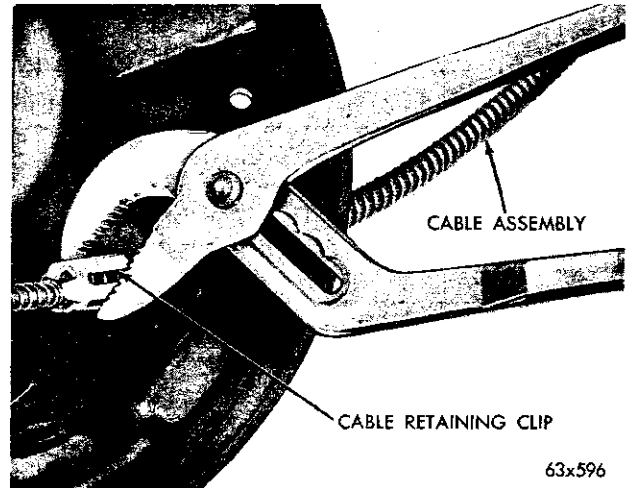

Fig. 9—Removing Rear Cable from Support Plate
(1) With the wheel and brake drum removed, remove the four backing plate attaching nuts and washers.
(2) Remove the rear axle shaft and retainer.
(3) Disconnect the hydraulic brake line from the wheel cylinder.
(4) Disengage the brake cable from the parking brake lever.
(5) Using a suitable tool compress the three flared legs of the cable retainer and pull the brake cable out of the support plate (Fig. 9).
(6) Remove the brake support plate from the rear axle housing.
(4) Remove the brake shoe retaining springs.
(5) Remove the brake shoes strut and spring from the brake back plate and disconnect the brake cable from the operating arm.
(6) Compress the retainers on the end of the brake cable housing and remove the cable from the brake plate (Fig. 9).
(7) Disconnect the brake cable from the "C" clamp.
(8) Remove the retaining clip from the brake cable bracket and remove the cable assembly.